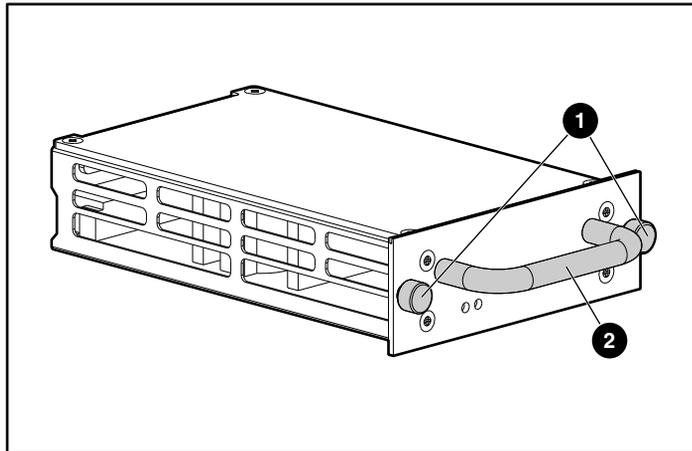
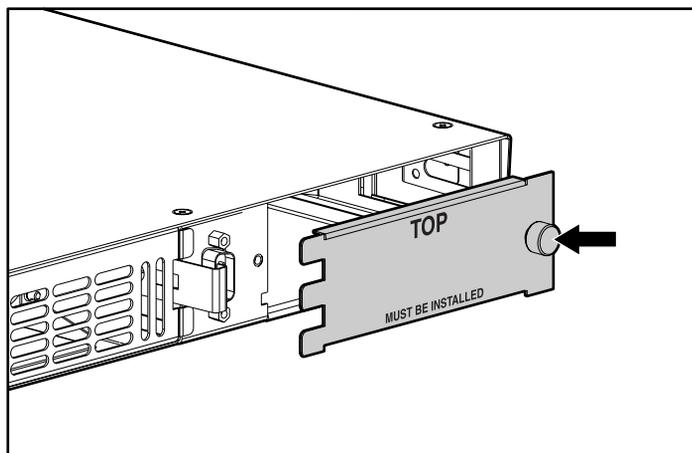

Figure 122: Thumbscrews and handle of a power module
Figure 123: Thumbscrew of a power bay cover
1. Loosen the thumbscrews ❶ in a counter-clockwise rotation on the power module or the power bay cover as shown in Figure 122 and Figure 123.
2. To remove a power module, hold the handle ❷ shown in Figure 122 and pull out the module until it has completely cleared the power bay.
To remove a power bay cover, pull out slightly on the side of the cover with the thumbscrew, slide the cover slightly to the right, and then carefully remove the cover. See Figure 123 for an illustration.
2. Remove the new power module from its shipping container and remove all packing material from around the module. See Figure 122 for an illustration of a power module.
3. To install a power module, hold the handle ② shown in Figure 122, align the bottom plate of the module beneath the guides of the bay opening, and slide the module into the power bay until the outer plate of the module is flush against the front-side of the router.
To install a power bay cover, carefully slide the cover so that it clips onto the left side of the power bay. Verify the orientation of the warning message as seen in Figure 123.